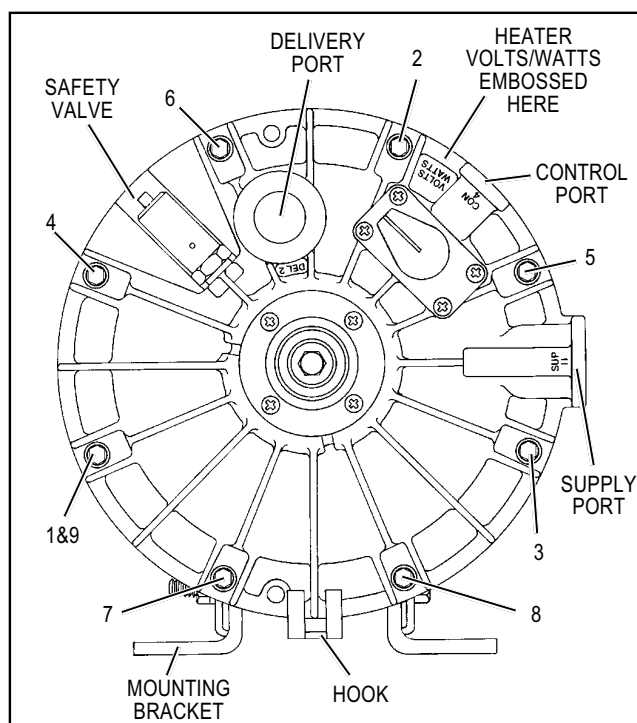

FIGURE 8- END COVER WITH TORQUE PATTERN
12. Install the outer sealing ring on the sealing plate. Place the outer housing over the desiccant cartridge (lining up marks made on the outer housing and end cover prior to disassembly) and retain with eight 3/8" hex head bolts, special washers, and lock nuts. Refer to Figure 8 for torque pattern. Torque to 270-385 inch pounds. **Note:** If 3/8" bolts require replacement, insure that the replacement bolts are grade 5 minimum and the same length as the original bolts. Use of inferior bolts can compromise the integrity of the air dryer and lead to premature failure. Where a lower, right angle mounting bracket (instead of a lower mounting strap) is used; line up the marks made on the outer housing and end cover. Install the six (standard) 3/8" cap screws, lock nuts and twelve special washers. The two longer 3/8" cap screws will be used to secure the air dryer to the right angle mounting bracket.